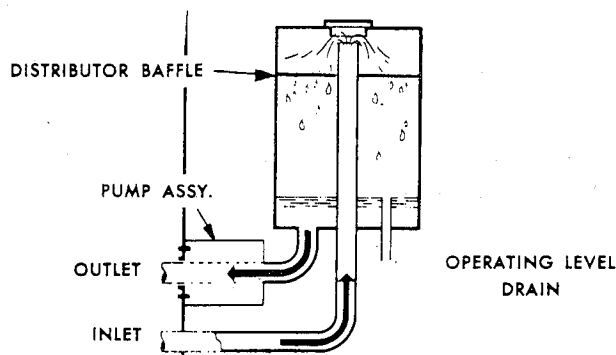

Figure 5
9. Adjust the water level in the chiller while the pump is still running. This is accomplished by removing the water level pipe cap as shown in Figure 5. When water ceases to drain, the level is properly adjusted. Replace the drain cap. Turn off the pump. (If no water flows when the drain cap is removed, refill the tank and repeat the draining operation to adjust the water level).